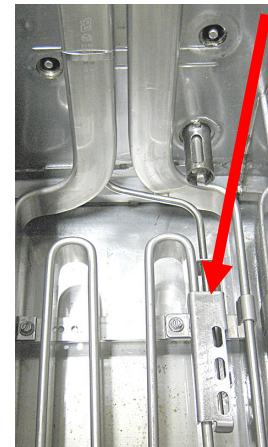

Figure 4
6. Remove the securing probe bracket and metal tie wraps that secure the probe to the element (see Figures 4 and 5). Remove the ground clip on the probe shield.